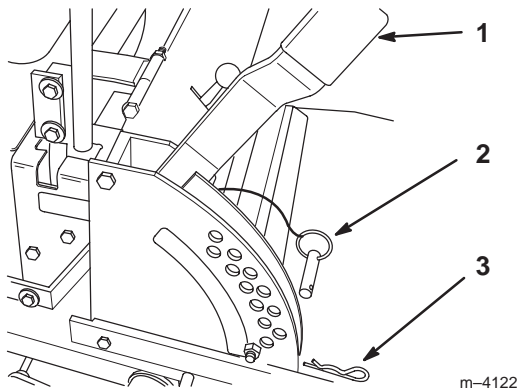

Figure 18
1. Raise the height-of-cut lever to the transport position (also the 4-1/2 inch [114 mm] cutting height position) (Fig. 18).
2. To adjust, remove the hairpin cotter and clevis pin from the height-of-cut bracket (Fig. 18).
3. Select the hole in the height-of-cut bracket corresponding to the height-of-cut desired, and insert the clevis pin (Fig. 18).
4. Secure the clevis pin with the hairpin cotter (Fig. 18).
5. Lower the height-of-cut lever onto the clevis pin (Fig. 18).